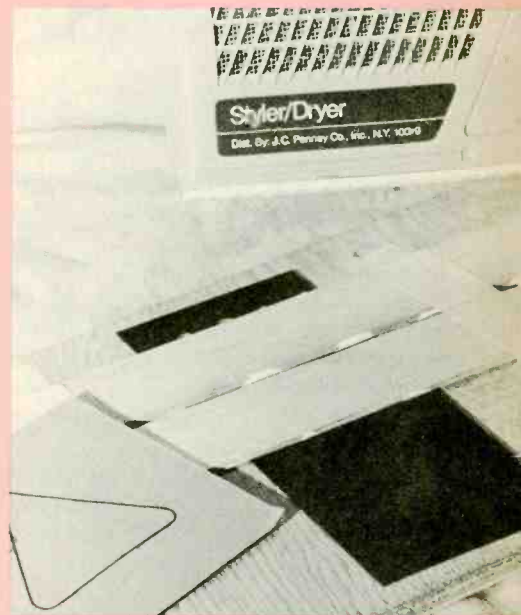

Fig. 4
**Fig. 4.** Acrylic bends at about 300° F. Here strips of wood faced with cloth for protection, are placed on both sides of bend mark and heat is applied by a 1000-watt hair dryer.